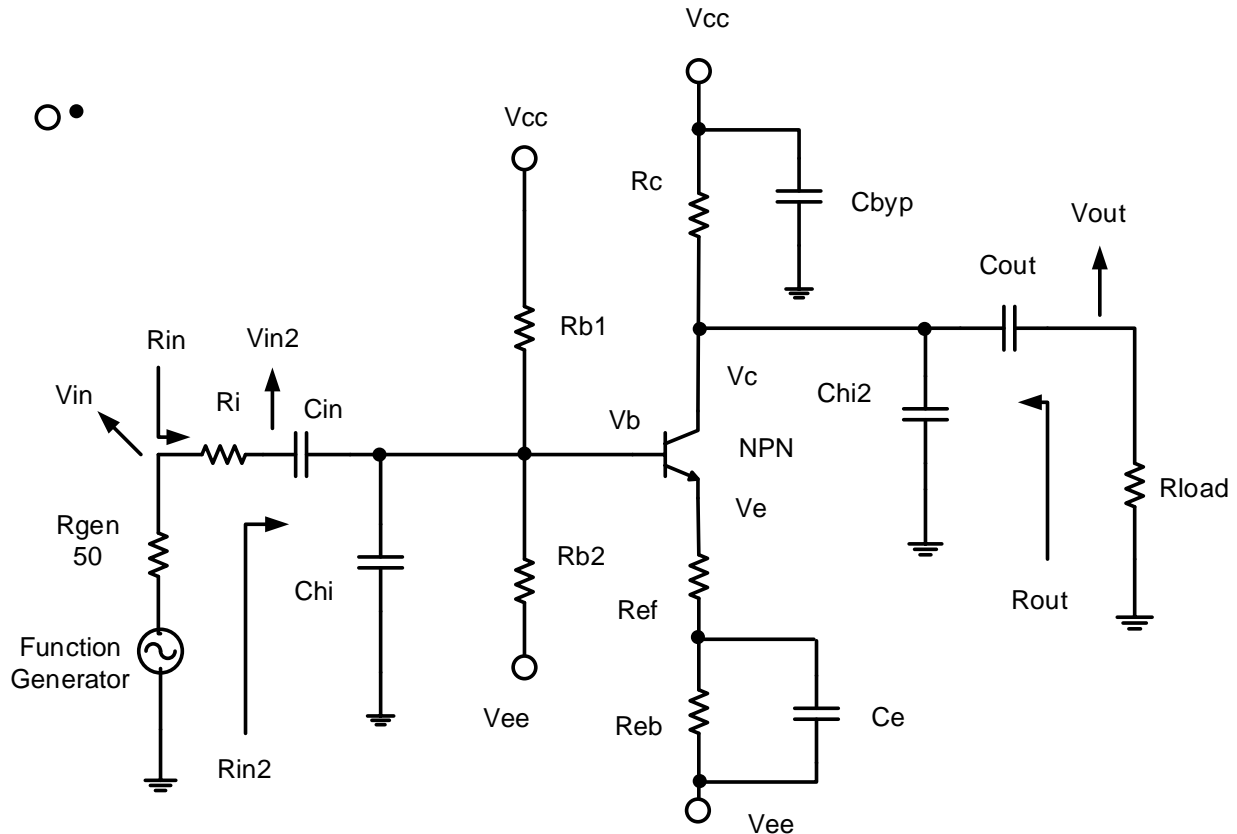

Figure 1. Common-emitter amplifier circuit.  $R_e = R_{ef} + R_{eb}$
**6.1 Construct** the CE amplifier shown in Figure 1. Must bypass the power supply on your proto board with a 0.1uF, 0.047uF or 0.001uF capacitor to prevent oscillations.